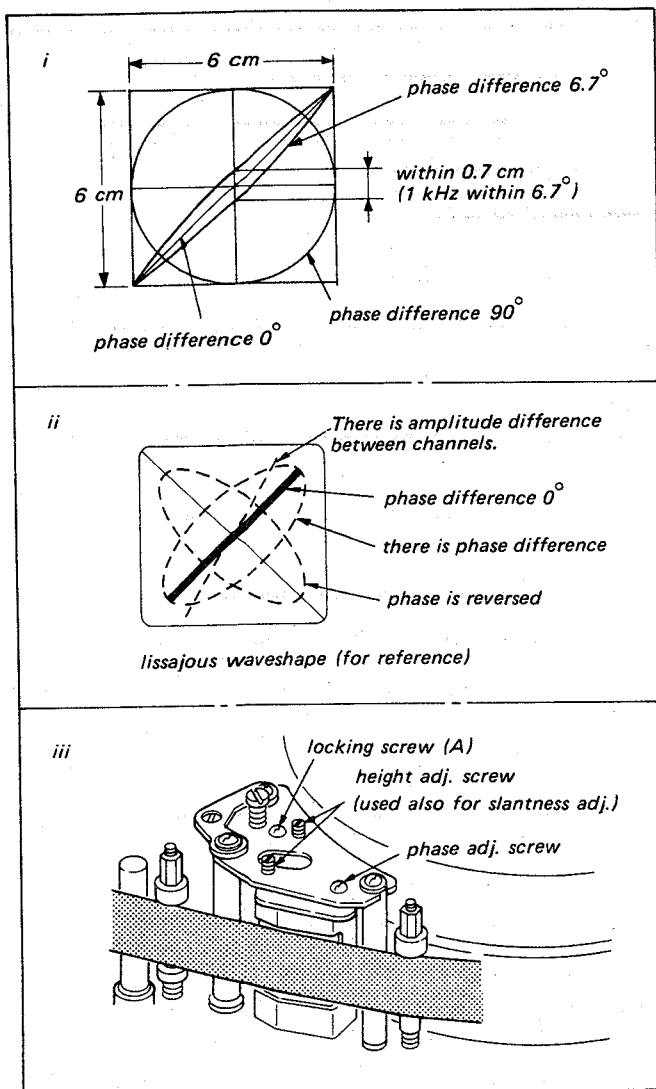

Fig. 6-22. Audio head phase adjustment (FWD mode, playing back RR5-1 PAL)
2. Loosen the locking screw (A). Adjust the phase adj. screw for maximum level and tighten the screw.
4. Connect CH-1/CH-2 LINE OUT connector to the horizontal and vertical inputs of the oscilloscope respectively so that a Lissajous figure appears on the scope. Adjust the scope for horizontal and vertical amplitudes of 6 cm. See Fig. 6-22.
5. Check that the vertical amplitude at the center in the horizontal direction is within 0.7 cm. See Fig. 6-22.
If it is not correct, loosen the head Locking Screw, shown in Fig. 6-22 and adjust the Phase Adjusting Screw for the correct value.